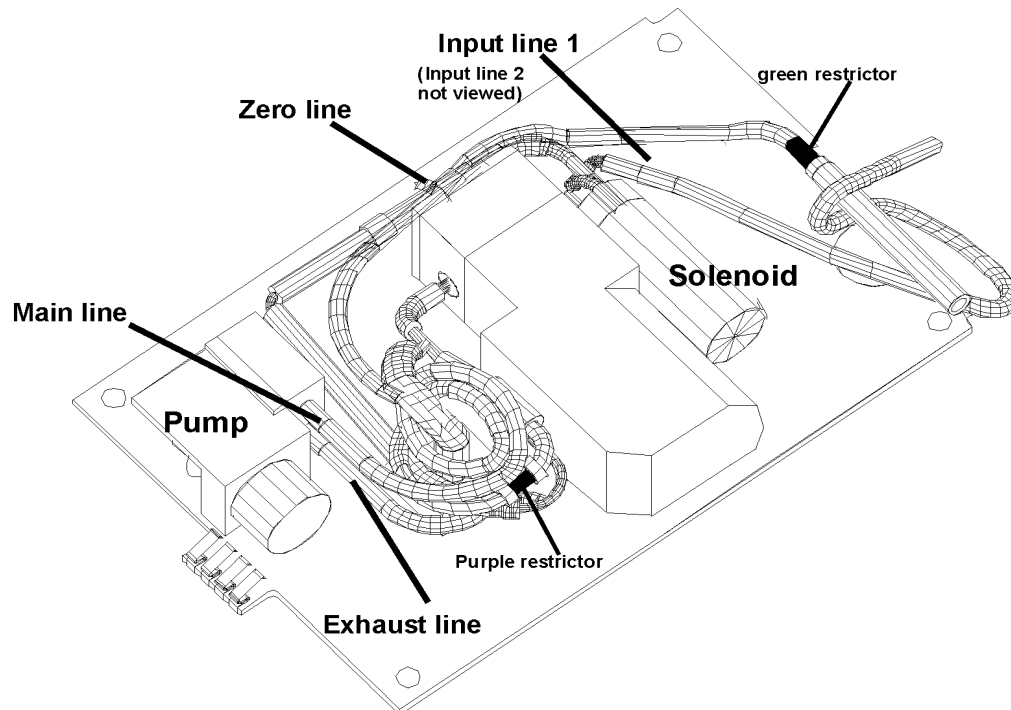

Figure 7-7: Flow System
- 3 Locate the two tubings, Main line and Exhaust line, connected to the Pump, refer to Figure 7-7: Flow System.
- 4 Locate the purple Main line restrictor and the green Exhaust line restrictor, refer to Figure 7-7: Flow System.
The Flow System has 5 lines, refer to Figure 7-7: Flow System.
- Input line 2 (not viewed in Figure 7-7)